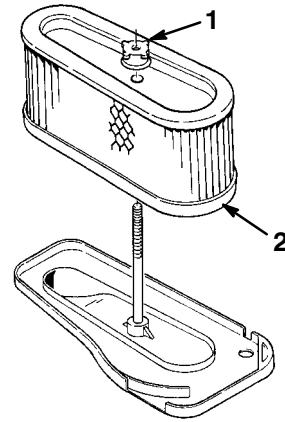

Figure 26
4. Unscrew the rubber nut and remove the paper element (Fig. 26).
1. Slide the air cleaner assembly onto the long rod. Screw the rubber nut finger-tight against the air cleaner (Fig. 26).